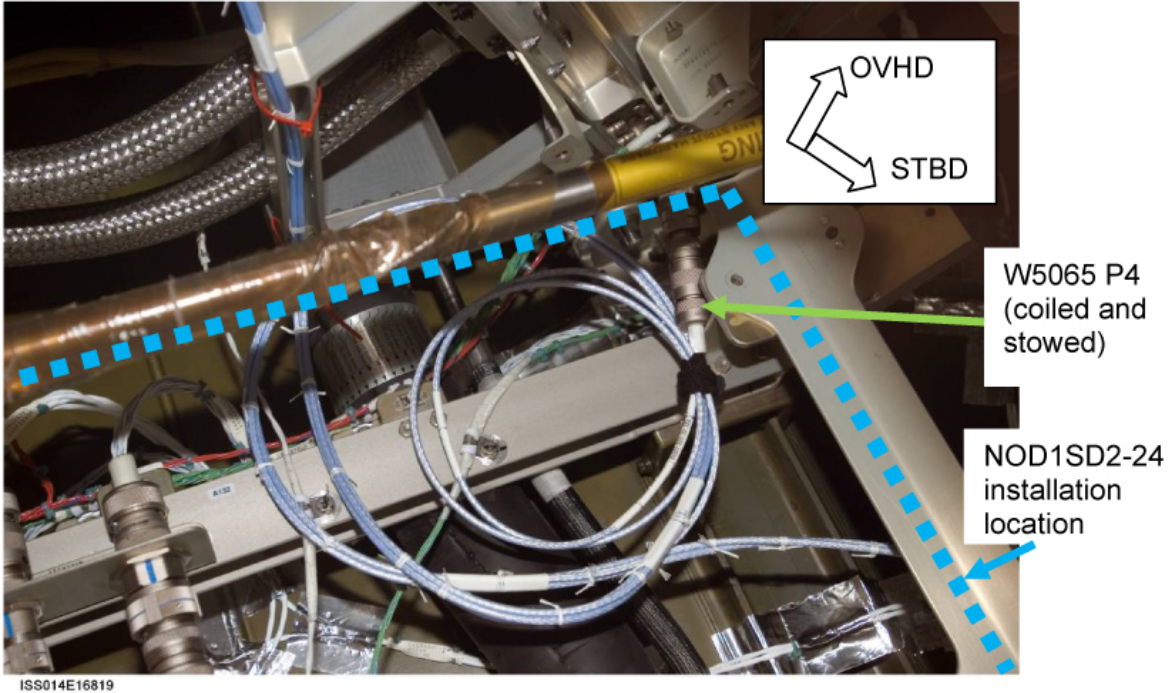

Figure 31. W5065 Stowed in NOD1SD2 Area.
Refer to Figure 31.
- 15.36 Loosely restrain NOD1 Video/Audio Bus A Cable (W9423) on same routing path as W0205 in NOD1SD2 area as shown in Figure 31.